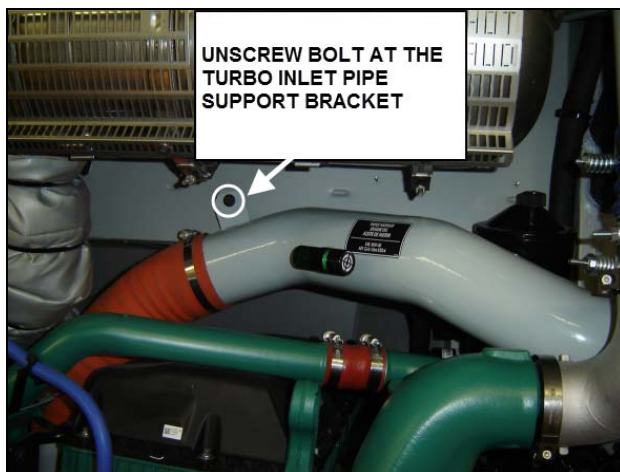
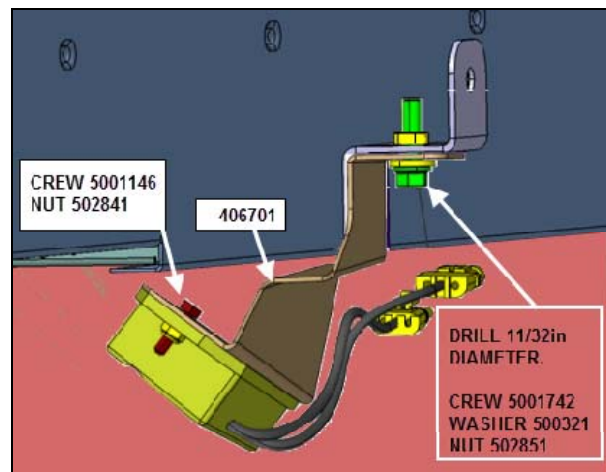

FIGURE 13
FIGURE 14
- 1) Unscrew the bolt at the turbo inlet pipe support bracket (FIGURE 13).
- 2) Mount the new IR sensor onto the new support #406701 (FIGURE 14). Install IR sensor and support assembly onto turbo inlet pipe support bracket as per FIGURE 13. Take note that the sensor cables must be placed on the exterior side of the engine compartment.